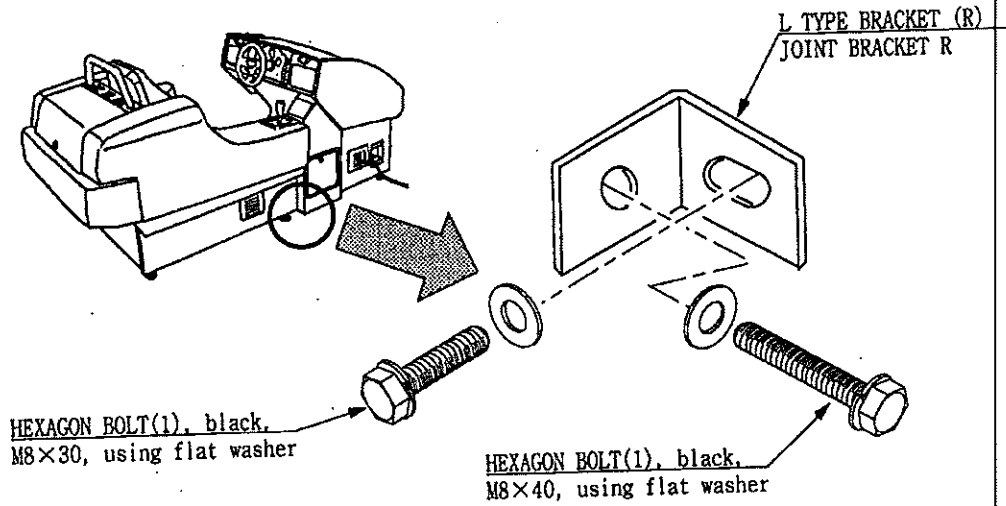

FIG. 6.6
- ⑩ By using the 2 hexagon bolts (black), secure L type bracket (R) in the direction shown. Be sure to use the bolts (each of a different length) shown (FIG. 6.6)